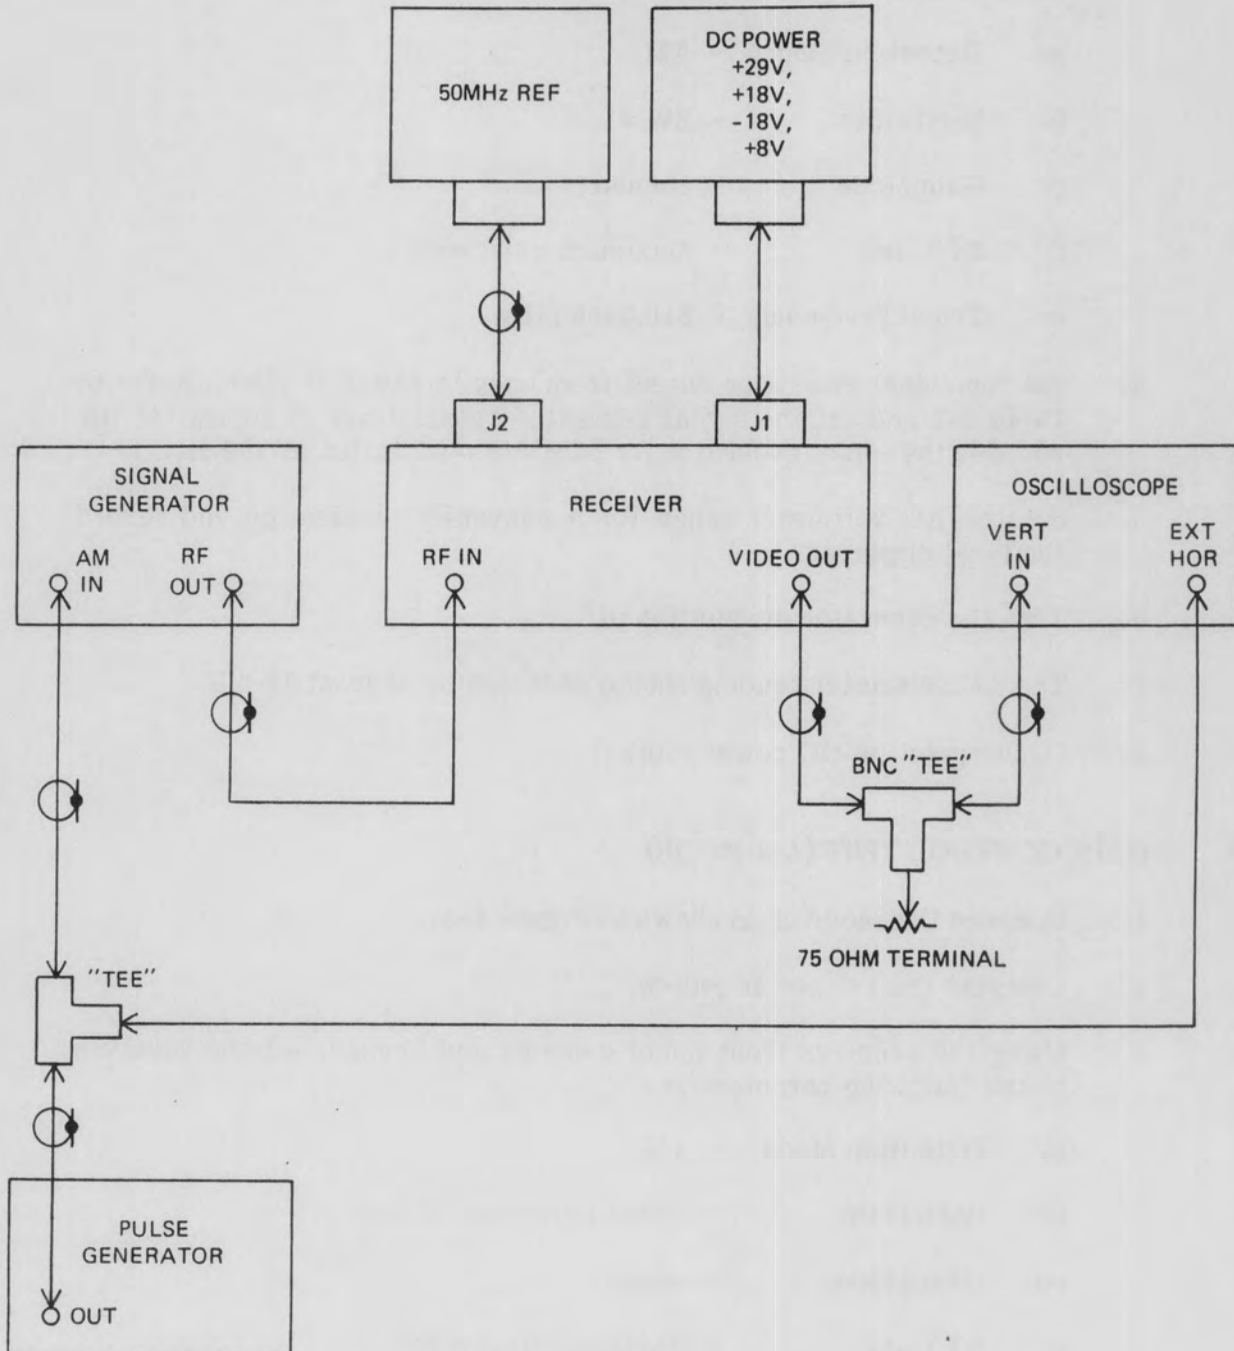

Figure 4-3. Pulse Mode Detection Test Setup
1. Connect the receiver as shown in **Figure 4-3**.